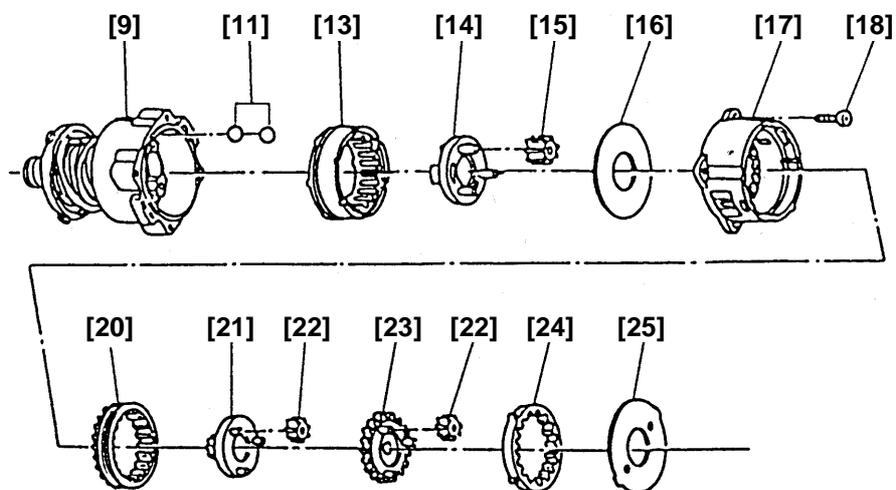

Fig. 12
(b) Install the parts from Steel Ball [11] to Washer (B) [25] in the order shown in Fig. 12.